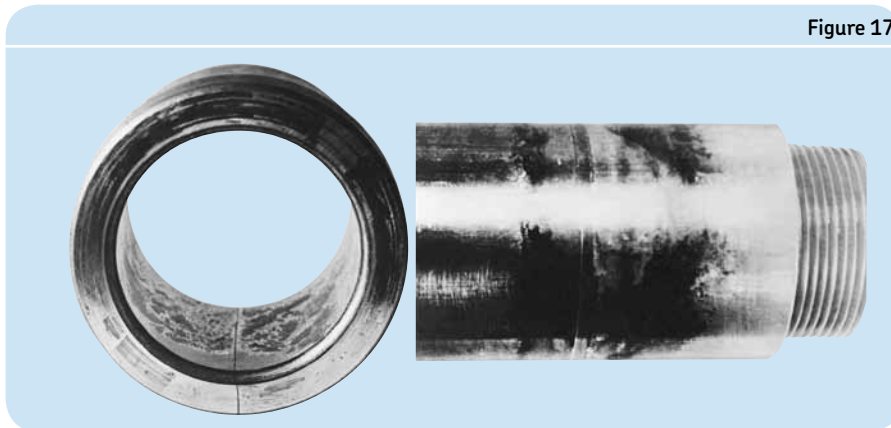

Figure 17
Excessive interference fits result in *forced fractures* by inducing dangerously high hoop stresses in the inner ring. **Figure 17** and **Figure 18** illustrate inner rings that cracked
**Figure 17** is a deep groove ball bearing that was mounted on a cylindrical bearing seat and **Figure 18** is a spherical roller bearing that was driven too far up a tapered seat. The fretting corrosion in **Figure 17** covers a large portion of the surface of both the inner ring bore and the journal and was the result of the ring looseness generated by an excessive fit *force fracture*.